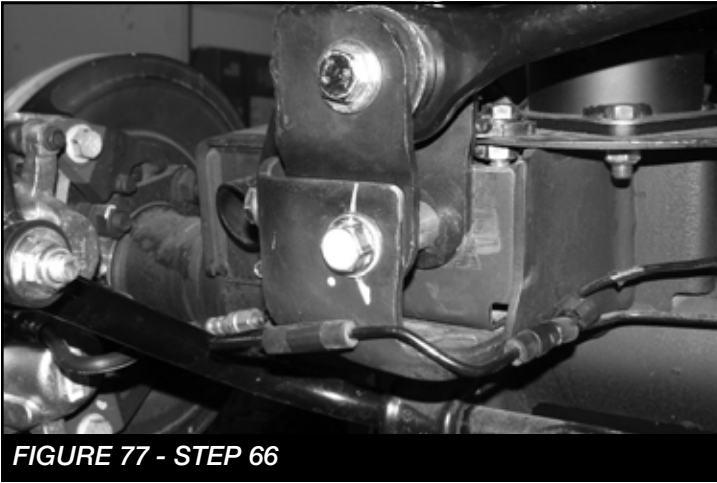

FIGURE 77 - STEP 66
66. Locate the supplied 9/16"-18x 3-1/2" bolt, nut and washers and install the rear track bar into the new location. Torque to 184 ft-lbs. **SEE FIGURE 77**